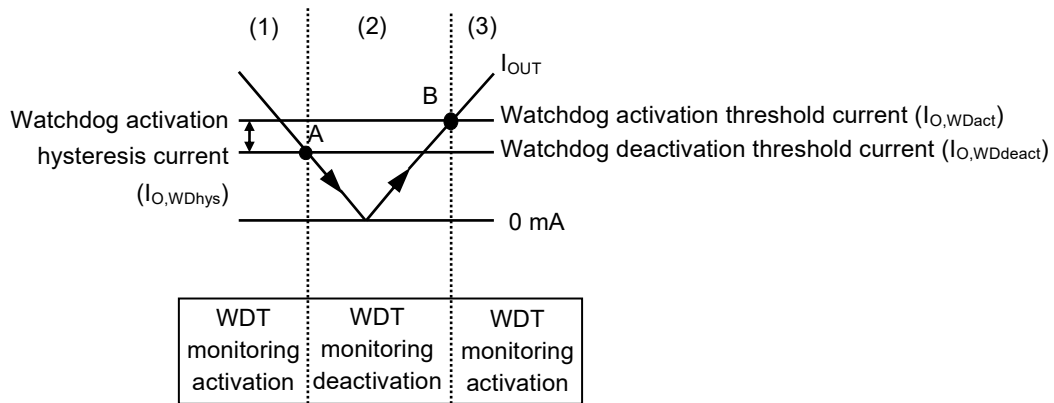

Figure 41 Autonomous Watchdog Operation Function
- (1) When I_{OUT} of the regulator is the watchdog activation threshold current ($I_{O,WDact}$) or more, the WADJ pin voltage (V_{WADJ}) is higher than the reference voltage (V_{ref}), and the output of the comparator (C1) is "H". At this time, the watchdog timer is activated.
- (2) When I_{OUT} decreases to the watchdog deactivation threshold current ($I_{O,WDdeact}$) (point A in **Figure 41**) or less, V_{WADJ} decreases to V_{ref} or less and the output of C1 is "L". At this time, the watchdog timer deactivates the monitoring. Even if I_{OUT} increases, the watchdog timer continues the monitoring deactivation when I_{OUT} is within less than $I_{O,WDact}$
- (3) If I_{OUT} further increases to $I_{O,WDact}$ (point B in **Figure 41**) or more, V_{WADJ} increases to V_{ref} or higher and the output of C1 is "H". And then, the watchdog timer initiates the monitoring activation.